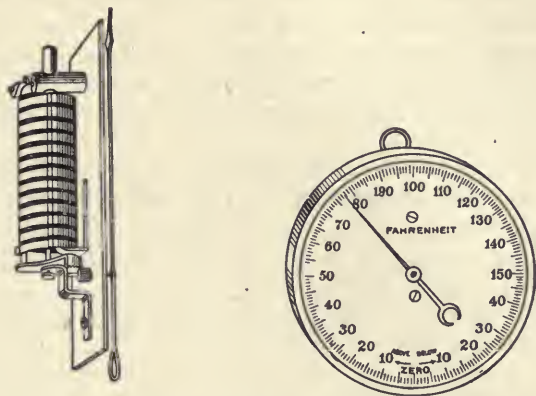

FIG. 129.—Metallic thermometer.
e. Metallic thermometers depend upon the movement due to the expansion of a coiled strip of metal which turns a pointer on the dial of the instrument. (See Fig. 129.)